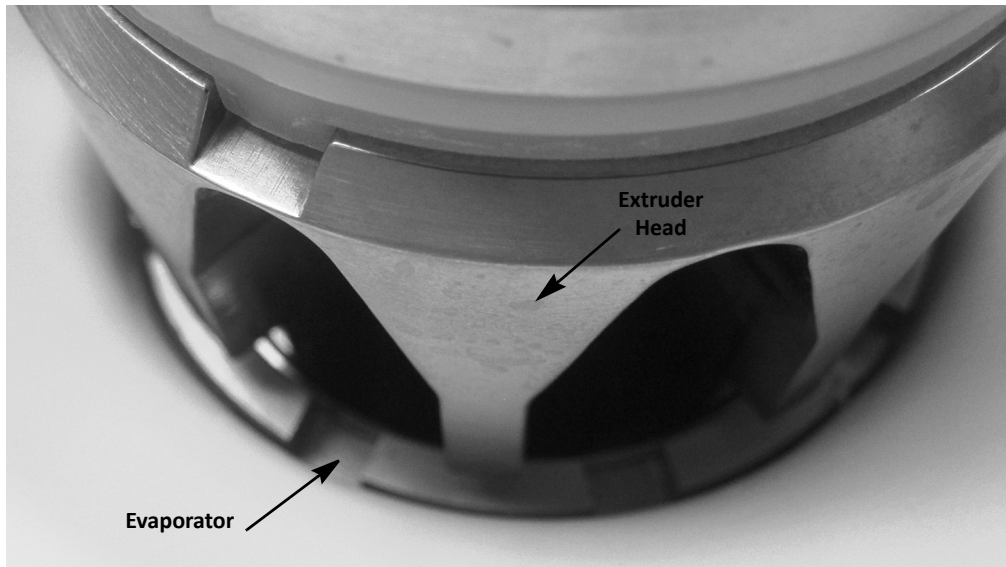

Figure 11. .
2. When the auger is lowered into the evaporator, rotate the auger to engage the motor drive shaft, as shown in Figure 11.